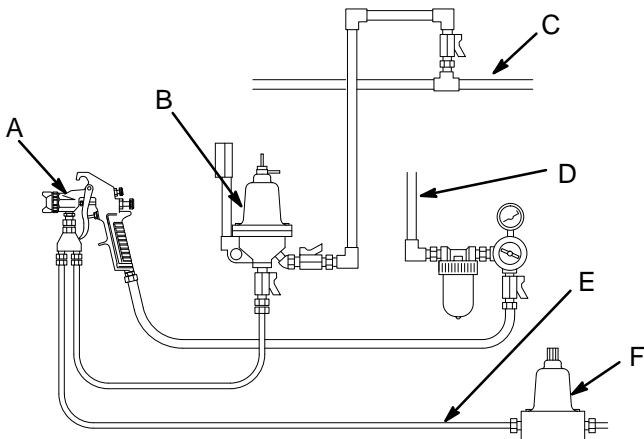
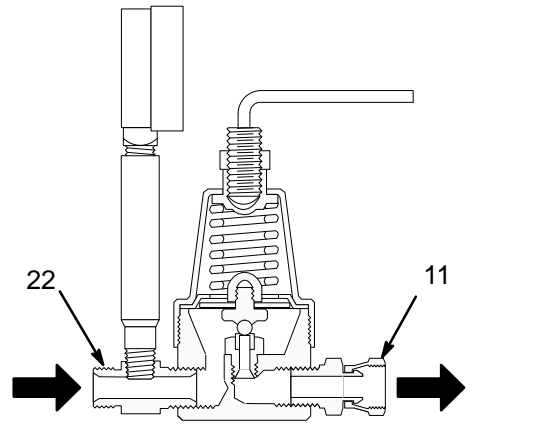

Fig. 1 04521
Fig. 2
Install the valve in the return line of the spray guns, downstream from the last gun. See Fig. 1. Connect the return line to the 3/8 npsm(m) inlet (22) and the 3/8 npsm(f) outlet (11). Be sure the connections match the direction of fluid flow in the line. See Fig. 2.